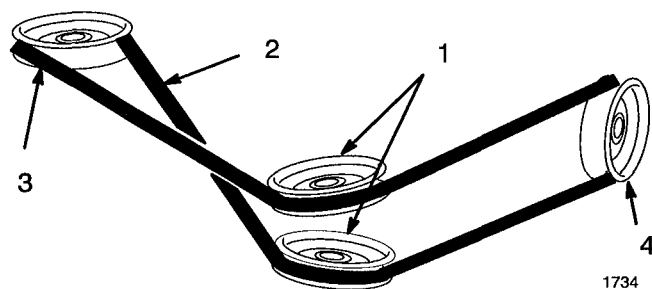

Figure 9
15. Install drive belt as shown around idler pulleys and right side mower pulley. (Fig. 9).